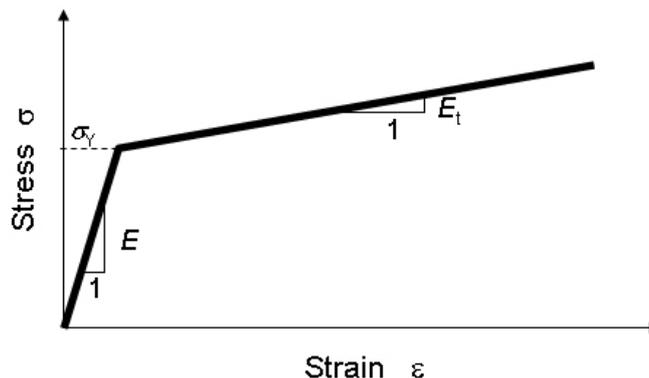

Figure 1. Stress (true) - strain (true) curve from a uniaxial test.
- (1) For copper, draw the engineering stress – strain curve and the true stress – strain curve in one figure, compare the difference between the two curves. [1 mark]
- (2) Draw the true stress – strain curves for aluminium, copper and steel in one figure, compare the stress-strain behaviours of three materials. [2 mark]
- (3) Using the elastic – linear hardening model, as shown in Figure 1, to approximate the true stress-strain curves.